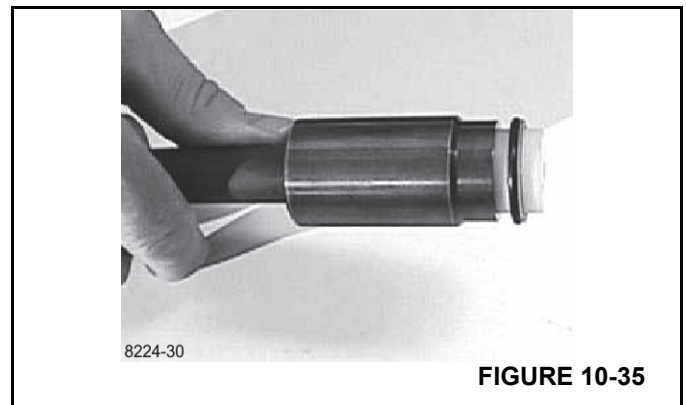

FIGURE 10-35
8. Grease O-ring and kin-ring/roto Glyd with hydraulic oil and place them on the tool (Figure 10-35).